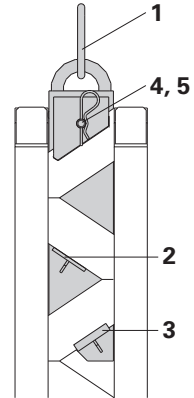

Fig. 1b
3. Pull Crane Splice 24 upwards until the angle bracket (3) encircles the struts of the GT 24 girder. (Fig. 1b)
4. Insert pin (4) into the Crane Splice 24 and secure using the cotter pin (5). (Fig. 1b)